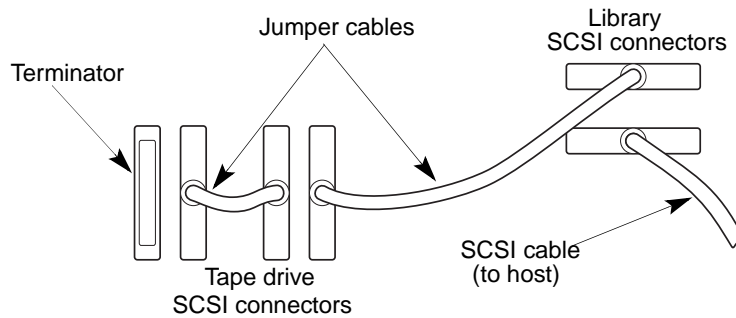

Figure 2-10 Cabling for a shared SCSI bus
4. Connect other SCSI cables, as necessary, depending on your bus configuration. If the library and tape drive(s) will share one bus, use jumper cables to daisy-chain the library and tape drive connectors, as shown in Figure 2-10.